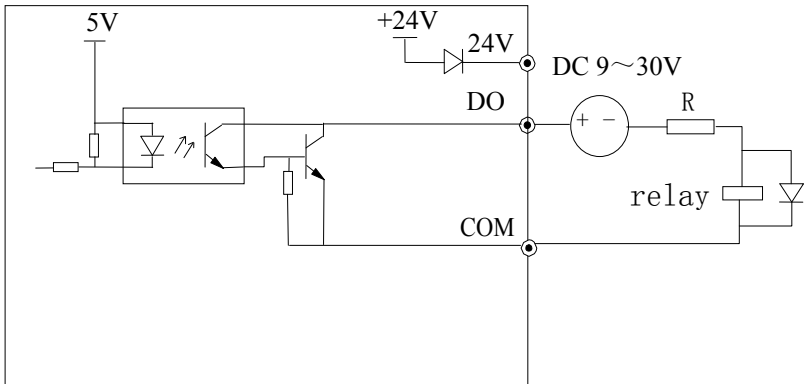

Fig 2-26 Wiring method 2 of DO as switching output
2) Multi-function output terminals DO as switching output can also use the external 9~30V power supply and the wiring method is shown in Figure 2-26.